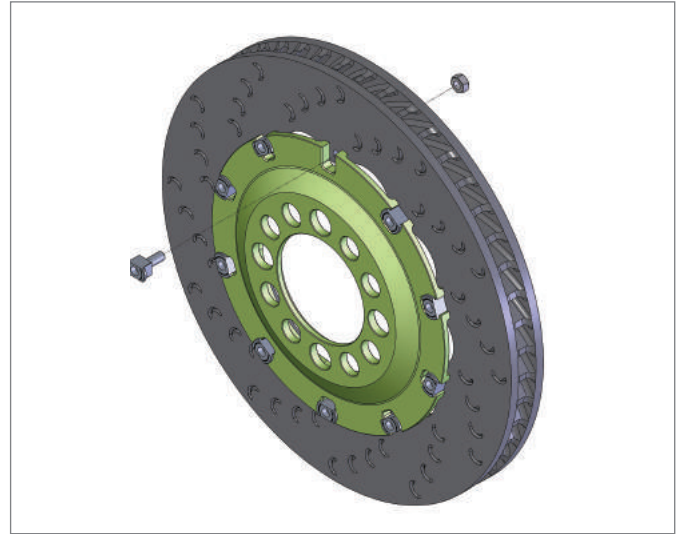

Figure 2. Bobbin drive system with integral stud (x405 series).
- Bobbin drive system with integral stud (see Figure 2).